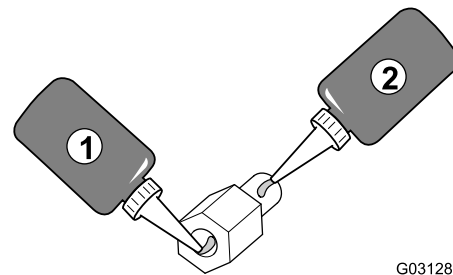

Figure 150
2. Apply a coat of thread-locking compound (wicking—medium-high strength) to the threads for the nut portion of the threaded standoff (Figure 150).
4. Apply a coat of thread-locking compound (wicking—medium-high strength) to the threads for the stud portion of the threaded standoff (Figure 150).